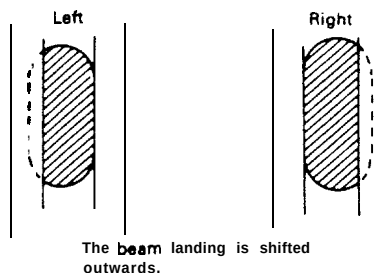

Figure 3-4.
- If the right and left green spots are both deviated outwards from their landing positions as shown in Fig. 3-4 push the deflection yoke forwards until their positions are corrected.